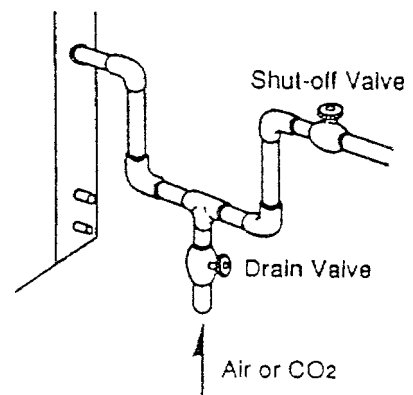

Fig. 10
10. PREPARING THE ICEMAKER FOR LONG STORAGE - See Fig. 10